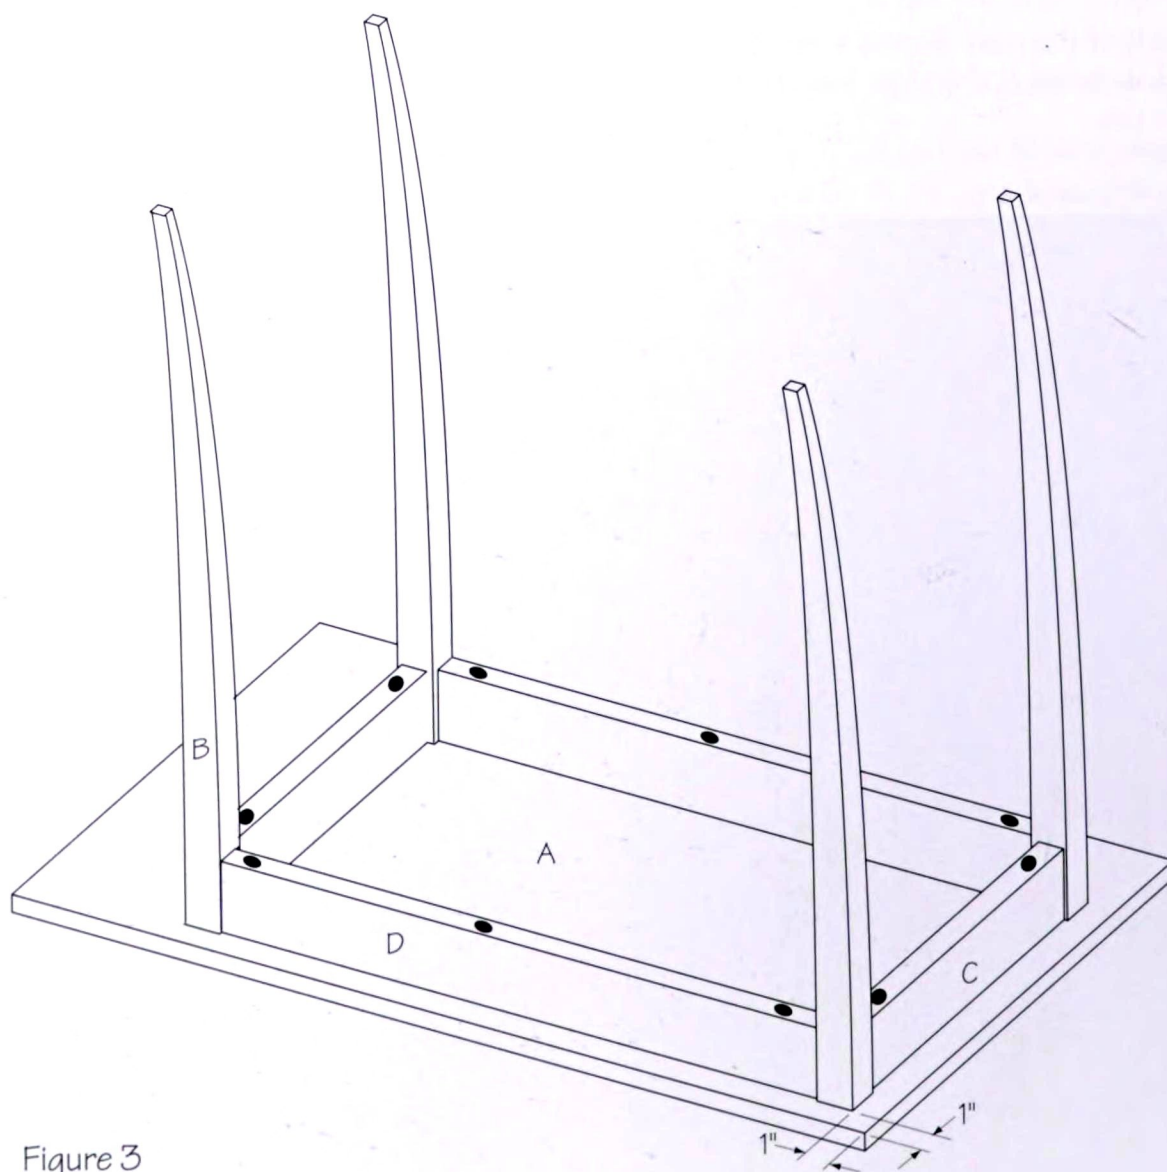

Figure 3
15. Place the table top (A) face down on a padded surface. Place the leg assembly top down on the table top and position it so that the convex surfaces of three legs are 1" from the edges of the top. Refer to figure 3.